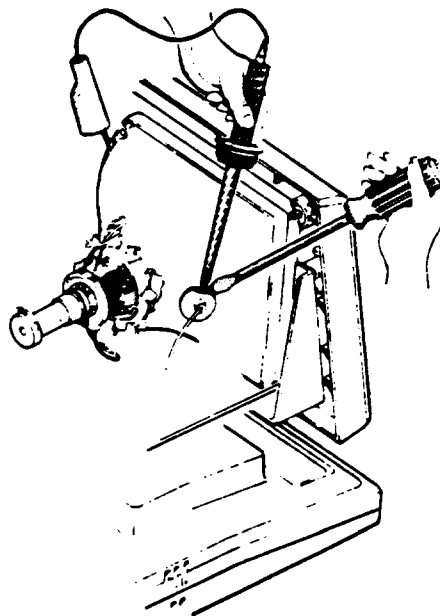

Figure 2-3. Discharging the CRT High-Voltage Circuit
1. **Discharge the CRT and the high voltage circuit, in a terminal only after the power cord has been disconnected either from the wall power source or from the terminal's power connector, by connecting the CRT anode contact to ground for several seconds. It is **recommended** to bleed the charge off slowly by using a well insulated high voltage discharge probe with an internal resistance of about 100Kohms connected between the CRT ground spring and the anode contact (see Figure 2-3). Maintain contact with the anode for several seconds. **Observe all applicable safety regulations when discharging the CRT.****